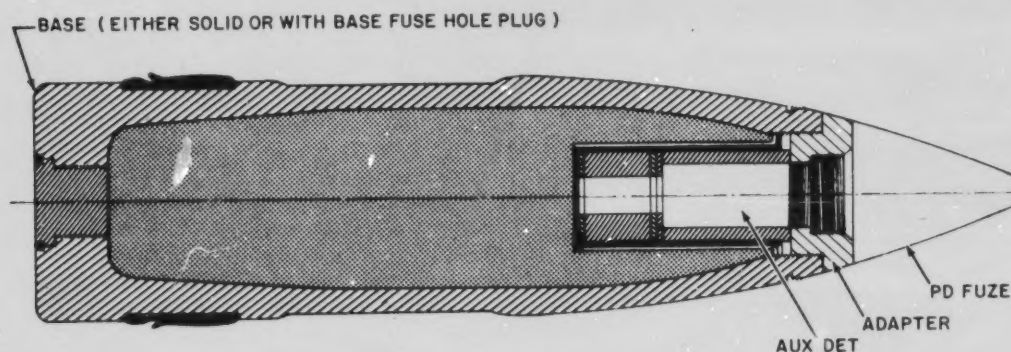

Figure 3-8.—High-explosive (HE) projectile.
d. High-explosive (HE) projectiles (fig. 3-8) for use against un-armored surface or land